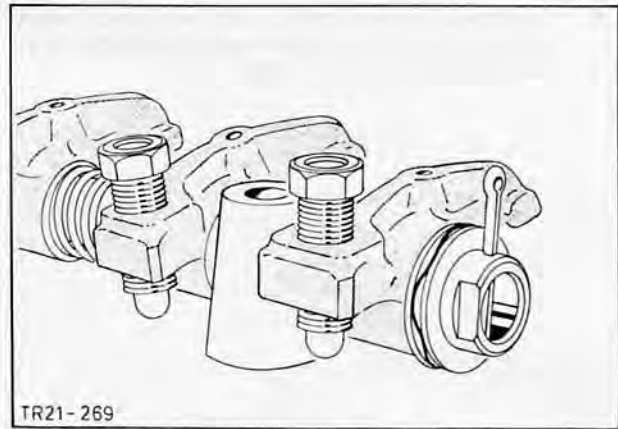

Fig. 191. Remove split pin from rocker shaft
1. Remove split pin from one end of rocker shaft (Fig. 191).